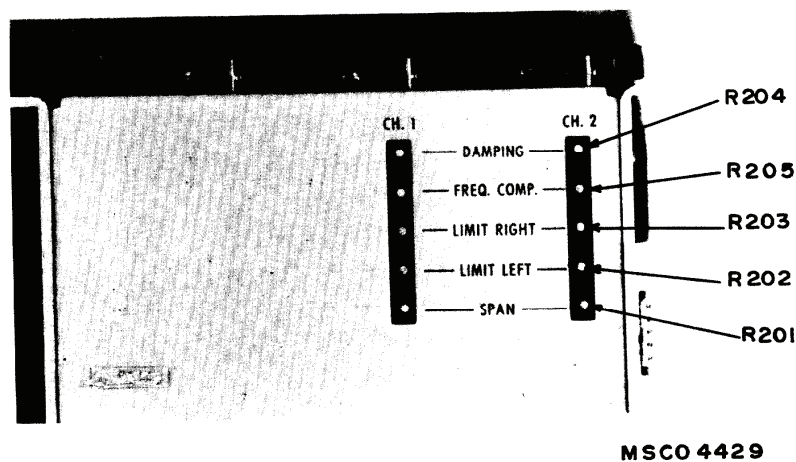
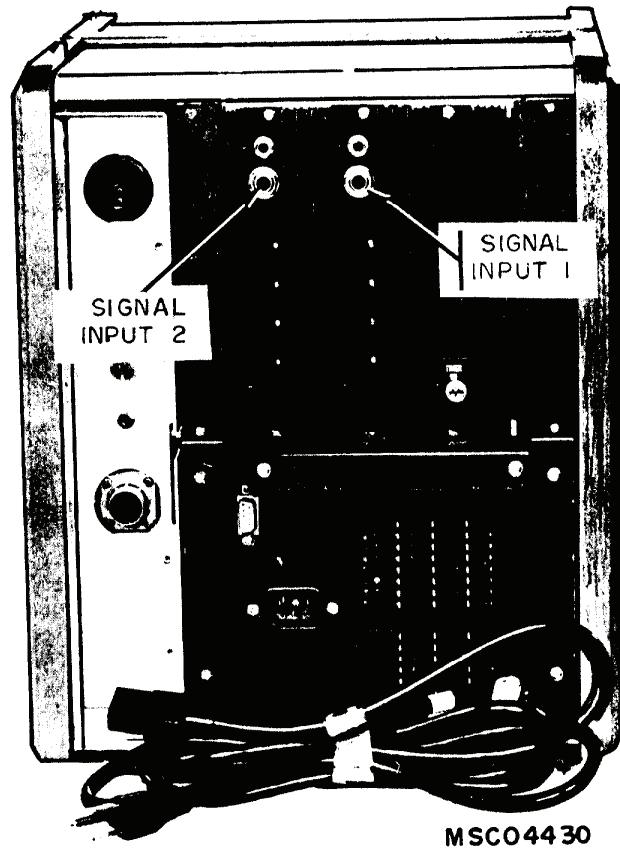

Figure 1. Model 2200S (Series) - top view.
Figure 2. Model 2200S (Series) - rear view.
- i. Turn **CH 1 POSITION** control fully ccw. Adjust CH 1 R202, LIMIT LEFT (CH 2 R202) (fig. 1) for 1.5 mm pen deflection beyond the left channel margin.
- j. Turn **CH 1 POSITION** control fully cw. Adjust CH 1 R203 LIMIT RIGHT (CH 2 R203) (fig. 1) for 1.5 mm pen deflection beyond the right channel margin.
- (1) Connect calibrator to SIGNAL INPUT I (fig. 2).
- (2) Adjust calibrator output for 25 mm pen deflection to the left on TI. If calibrator does not indicate between 2.490 and 2.510 V dc, perform **b** below.
- (3) Vary autotransformer between 105 and 125 V while maintaining a 25 mm pen deflection on TI with calibrator. If calibrator indication does not remain between 2.490 and 2.510 V dc and **b** was not performed in (2) above, perform **b** below.
- (4) Set calibrator for 25 mm pen deflection to the right on TI. Calibrator will indicate between -2.490 and -2.510 V dc.
- (5) Repeat techniques of (1) through (4) above for SIGNAL INPUT 2 (fig. 2).
- (1) Set calibrator output for 2.500 V dc.
- (2) Adjust CH 1 R201 SPAN (CH. 2 R201 SPAN) (fig. 1) for a 25 mm pen deflection to the left on TI.
- (1) Adjust function/arbitrary generator for 1 Hz square wave at 4 V p-p.
- (2) Connect function/arbitrary generator to SIGNAL INPUT 1 (fig. 2).
- (3) Turn **VARIABLE SPEED** control to fully cw. If waveform on TI does not indicate less than 1 percent overshoot, perform **b** below.
- (4) Repeat technique of (2) above for SIGNAL INPUT 2 (fig. 2).
b. Adjustments. Adjust CH 1 R204 DAMPING (CH 2 R204 DAMPING) (fig. 1) for minimum overshoot or undershoot.
- (1) Press **25 mm/sec** pushbutton.
- (3) Adjust function/arbitrary generator frequency for 10 Hz and output for 30 mm pen deflection on TI.
- (4) Sweep function/arbitrary generator frequency to 50 Hz. If pen deflection does not remain between 29.1 and 30.9 mm, perform **b** below.
- (5) Repeat techniques of (2) through (4) above for SIGNAL INPUT 2 (fig. 2).
- (6) Slide all manual ink valves with tubing attached to **OFF** position.
b. Adjustments. Adjust CH 1 R205 FREQ COMP (CH. 2 R205 FREQ COMP) (fig. 1) for a 30 mm pen deflection (R).